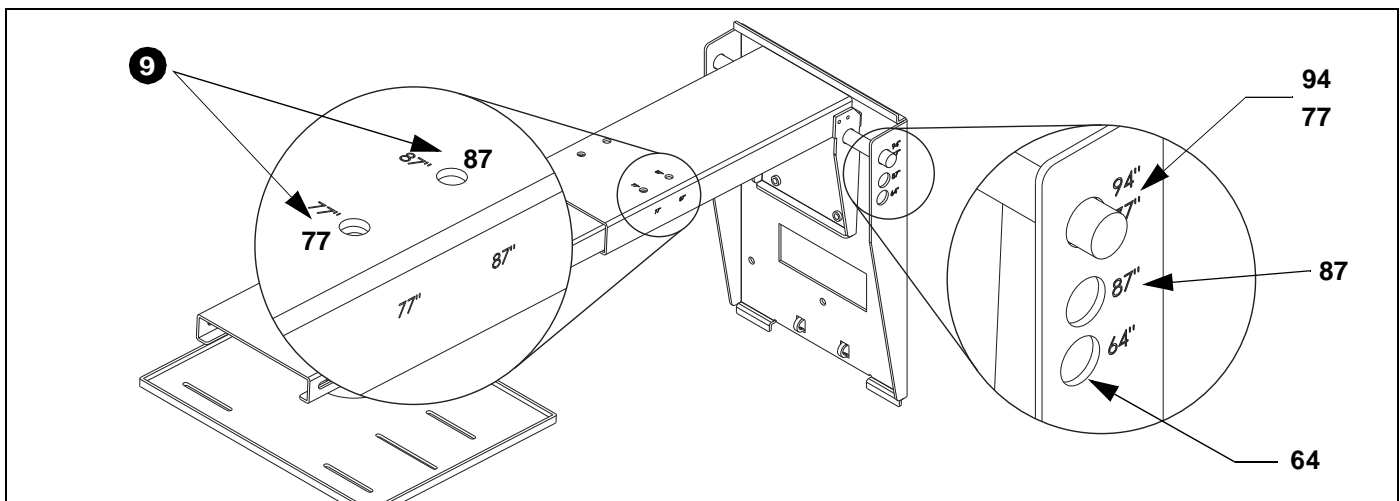

Figure 11
See Figure 11 for boom arm positioning
9. Use the hardware (saved in Step 1) to connect the boom arm to the SMART board mount. (See Figure 11)